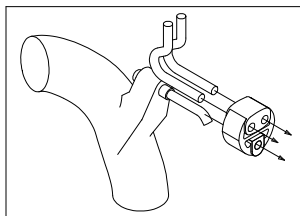

Figure A1
3. **Lower the exhaust:** Locate the tail pipe hanger toward the back of the tail pipe and slide the rubber hanger off of the tubing that is welded to the pipe, see Figure A1.